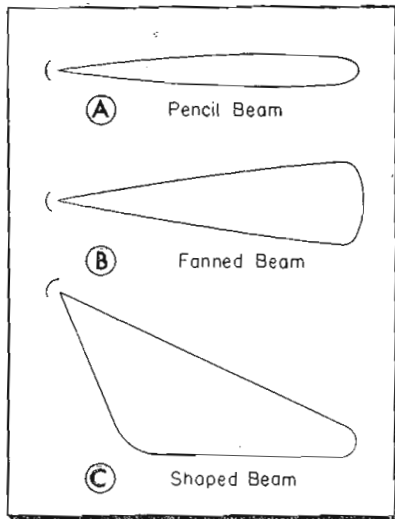

Fig. 8: Types of directive antenna patterns
With the foregoing as a background, let us examine the various directive antenna patterns required by the several types of radar systems. In general, the patterns (or beam shapes) can be grouped into three categories: (A) pencil beams, (B) fanned beams, and (C) shaped beams. These are depicted in Fig. 8. The term pencil beam is applied to a highly directive antenna pattern consisting of a single major lobe contained within a cone of small solid angle and very nearly circularly symmetric in cross-section. The fanned beam may be thought of as being developed by distorting the circularly symmetric pencil beam into a symmetric elliptical beam in cross-section. The shaped beam, while uniformly narrow in one plane like the fanned beam, is a pattern shape which is not characteristic of the normal diffraction lobe and must be produced by special techniques.